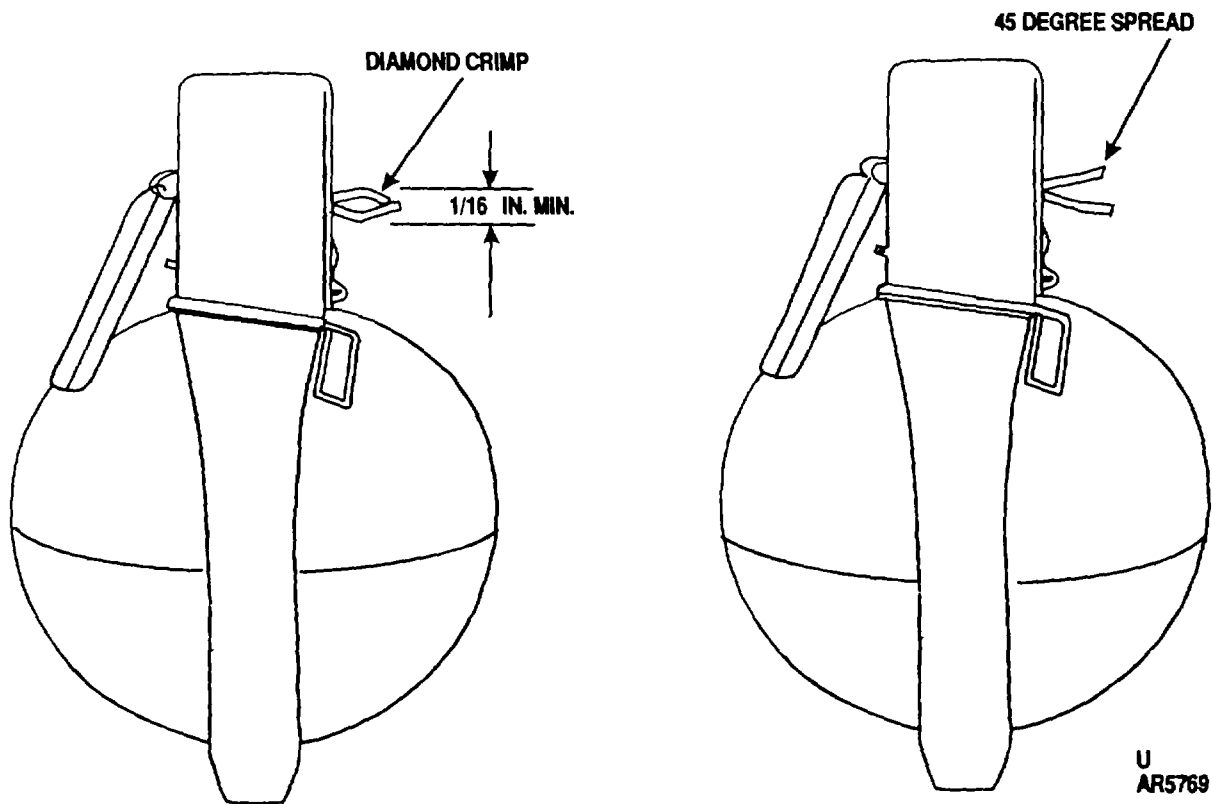

Figure 3-4. Adjustment of safety pin.
(3) Presence of safety pin. Missing safety pin is a critical defect and ammunition disposal personnel should be notified.
(4) Assure that diamond crimp is present or, if safety pin legs are spread, the spread is 45° to 60°. An insecurely installed safety pin is a critical defect and should be adjusted.
(5) When adjustment of safety pin is required, adjust as follows (fig. 3-4):
(a) *Diamond crimp.* If width between corner points of obtuse angles of diamond crimp is less than 1/16-inch spread safety pin legs to angle of 45° to 60° as shown in figure 3-4.
(b) *Angular spread.* If angular spread is less than 45°, spread safety pin legs to angle of 45° to 60° as shown in figure 3-4.